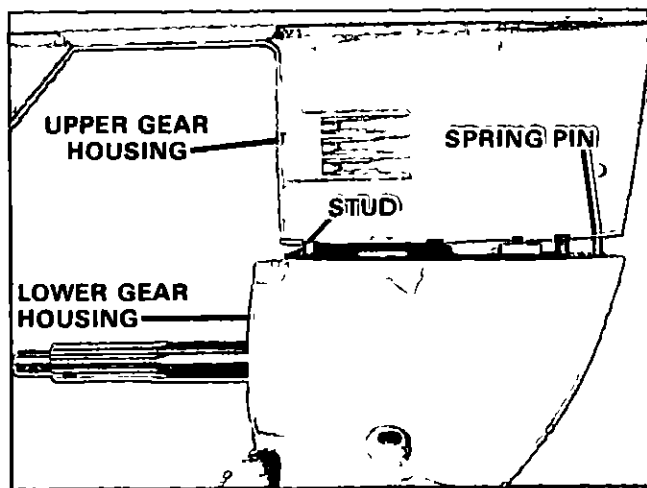

Figure 38. Installing Lower Gear Housing to Upper Gear Housing.
- A Align spring pin in front of lower gear housing with bore of upper gear housing Figure 38